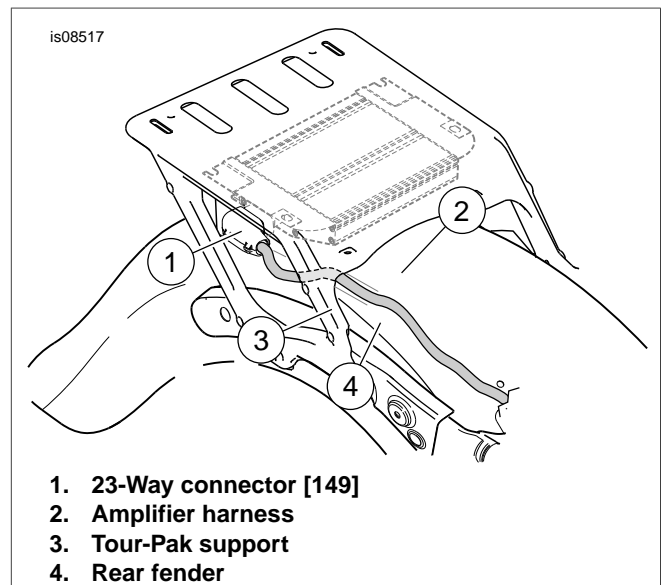

Figure 3. Harness Routing
- *See Figure 3. Begin routing the amplifier harness from the large 23-way connector [149] (1), moving forward on the*